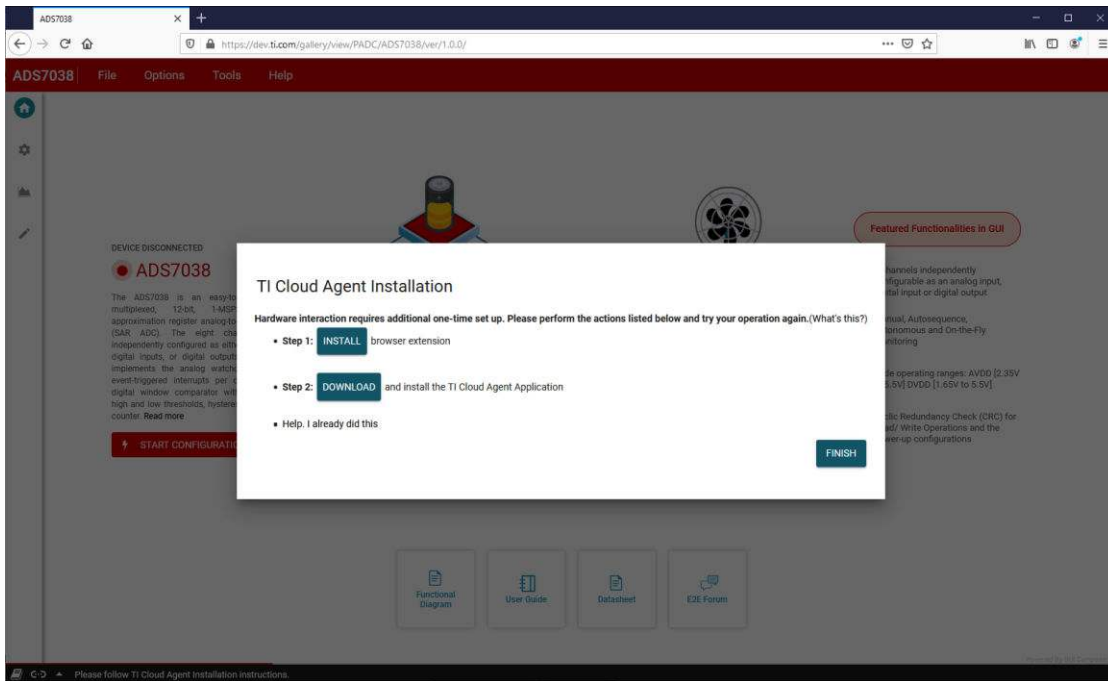

Figure 3-2. Browser Extension and TI Cloud Agent Installation
3. First-time users may be prompted to download and install the browser extension for Firefox™ or Google Chrome™ and the TI Cloud Agent Application as Figure 3-2 shows. Do so if need be, this is a one time download.